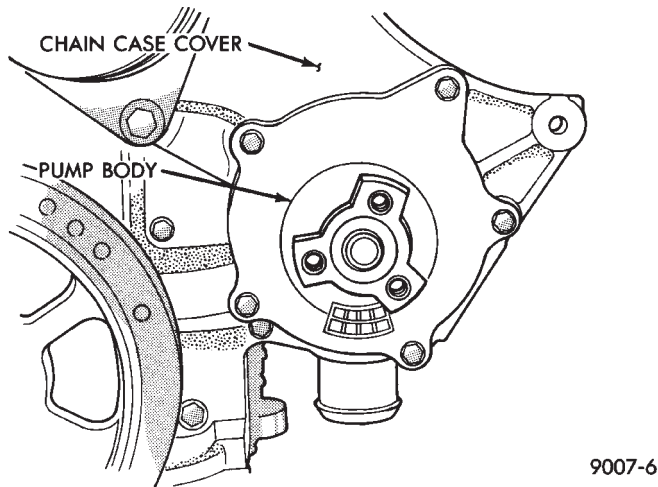

Fig. 1 Water Pump—3.3L Engine
The pump has a die cast aluminum body and a stamped steel impeller. It bolts directly to the chain case cover (Fig. 1), using an O-ring for sealing. It is driven by the back surface of the Poly-V Drive Belt.
- (1) Drain Cooling System. Refer to Draining Cooling System in this group.
- (2) Remove Poly V Drive Belt.
- (3) Remove right front lower fender shield.
- (4) Remove pump pulley bolts and remove pulley.
- (5) Remove pump mounting screws (Fig. 1). Remove pump.
- (6) Remove and discard O-ring seal.
- (7) Clean O-ring groove and O-ring surfaces on pump and chain case cover. Take care not to scratch or gouge sealing surface.